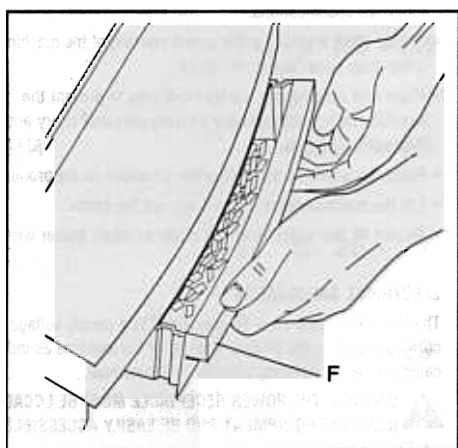

Figure 6
1. Empty Chip Drawer (F) after repeated use. Pull drawer gently toward you to open. When putting back in, the drawer will snap into place (see figure 6).